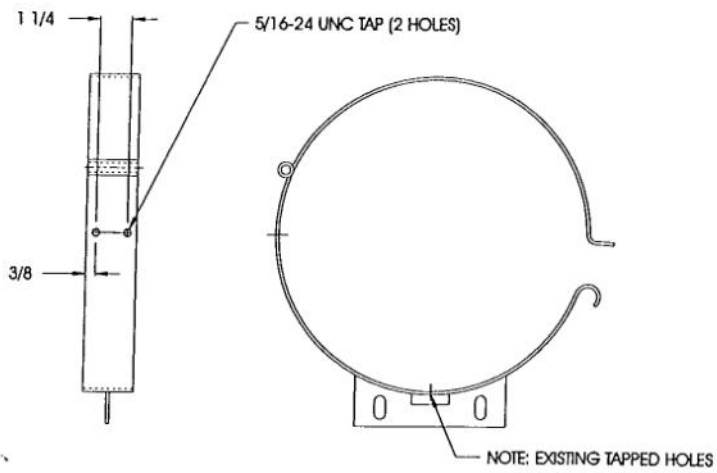

Figure 2
5. Drill two "F" holes in bottom of mount as shown in diagram in figure 2.